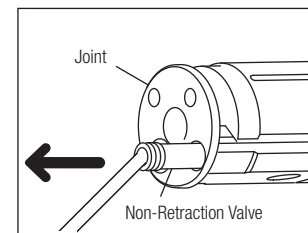

Fig. 12
- Pull out the joint then remove the Non-Retraction Valve. Pull out the old Non-Retraction Valve with thin stick.(Fig. 12)